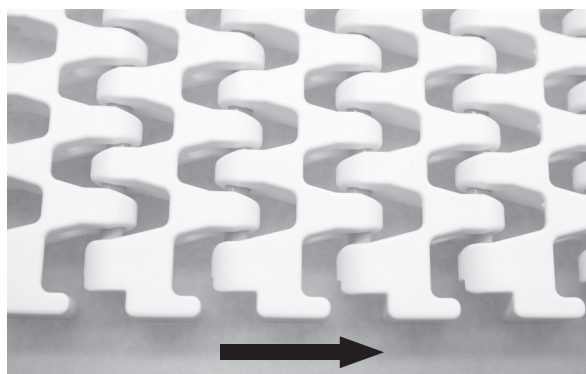

Figure 43
*Ensure the belt is running in the correct direction (**Figure 43**).*